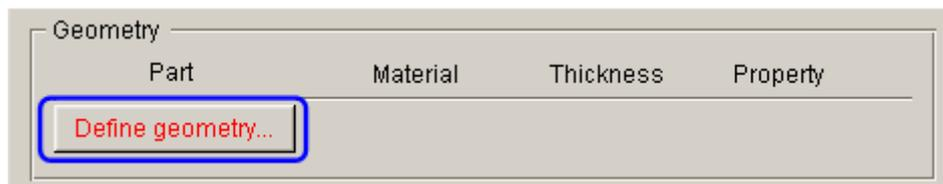
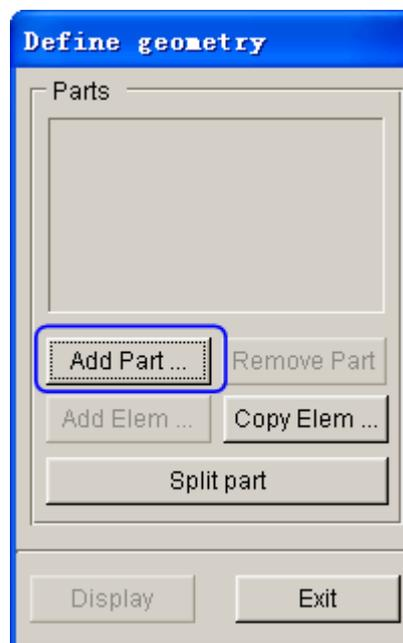

Figure 5.25 Define blank
Figure 5.26 Define geometry dialog box
2. Then, click **Define geometry...** button from **Geometry** in blank definition interface. See Figure 5.25. The program will pop up the DEFINE GEOMETRY dialog box illustrated in Figure 5.26.